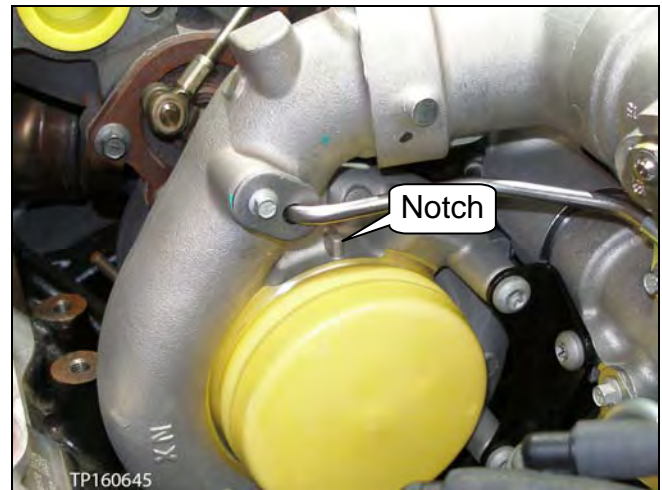

Figure 69
- The air inlet connection assembly is properly mated to the low pressure turbocharger when the notch is seated in the cut-out (see Figure 69 and 70).